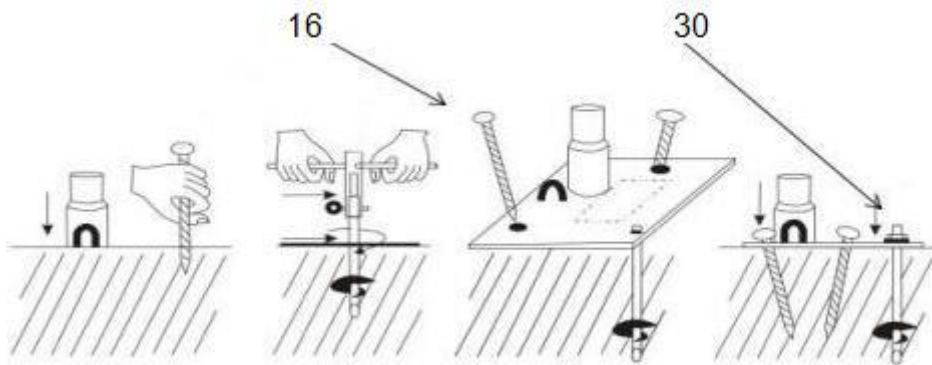

Figure 3
2. There are three holes on the Base Plates (No.5, 7) and two holes on the Base Plate (No. 6), for Stake Peg (No. 16). Refer to Figure 3 to place the stake pegs, THUS ALL BASE PLATES ARE SECURED.
As Figure 3 shows each Base Plate (No.5 No.6 & No.7) is equipped with 2 pieces of Stake Pegs (No.16) and 1 piece of spiral pegs(No.30)